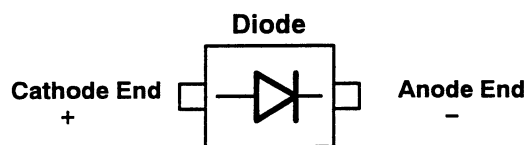

Figure 6-1. Cathode and Anode End
3. Determine the cathode and anode ends as marked on the diode. Figure 6-1.